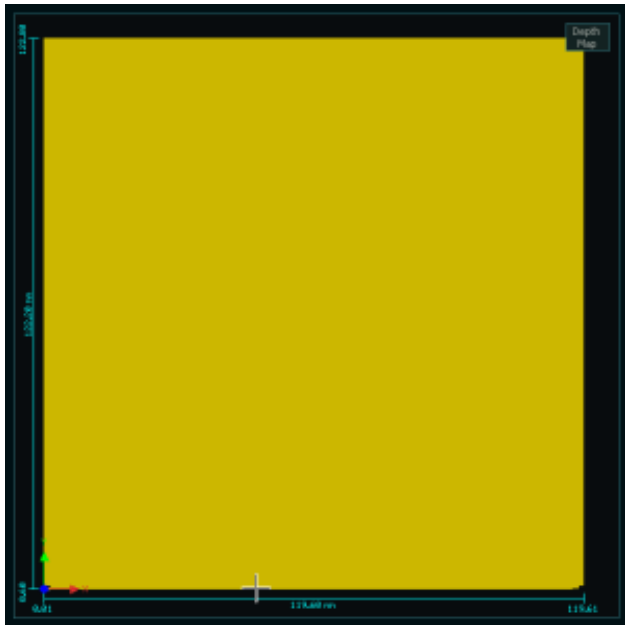

FIGURE 17—2D View
- Go to the Multi-Head setting page and select Laser Engraving/Cutting (see Figure 17).
- To change between 2D View and Depth Map view, press the button at the top right of the display area (see Figures 17 & 18).